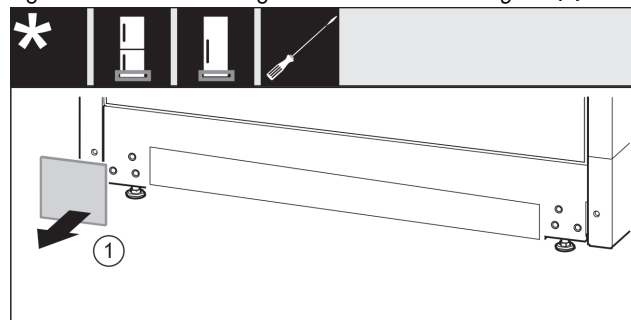

Fig. 15
- Remove the cover. Fig. 15 (1)